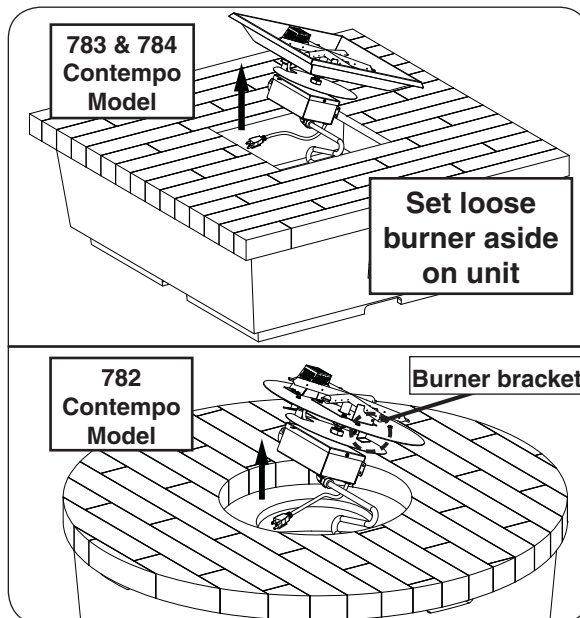

Fig. 46-1 Remove burner assy (if needed)
1. **783 & 784 Models:** Lift burner assembly from the table as shown in Fig 46-1.
782 Models: Use a $\frac{5}{16}$ " nut driver to partially unfasten the four screws found on the burner assembly. Then remove the burner and set it off to the side. See Fig. 46-1.